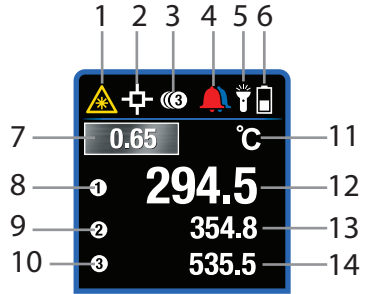

Fig 4-4 Main Display Screen (TG54)
Note: Several display icons are not represented in Figs 4-4 and 4-5. However, the icons not shown are covered in Section 4.5, *Display Icon Descriptions*, and elsewhere in this Guide where applicable.
- In three-reading mode the meter shows the three most recent readings on one screen. See Fig. 4-4.